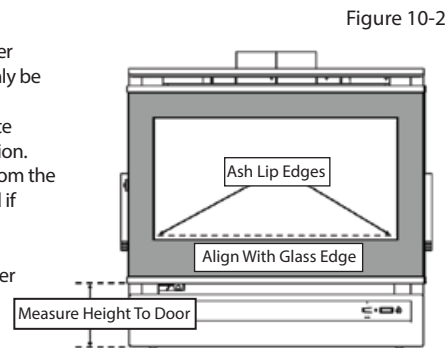

Figure 10-2
- Check the alignment of the door by measuring vertically from the underside of the door at each outer edge, to the base of the fascia, as per figure 10-2. This measurement should be taken with the hinge bolts tightened and with the door hanging under its own weight.